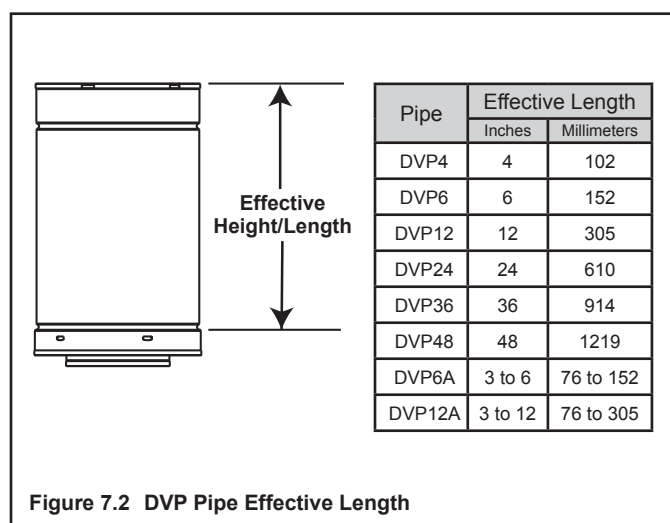

Figure 7.2 DVP Pipe Effective Length
- Pipe measurements are shown using the effective length of pipe (see Figure 7.2).